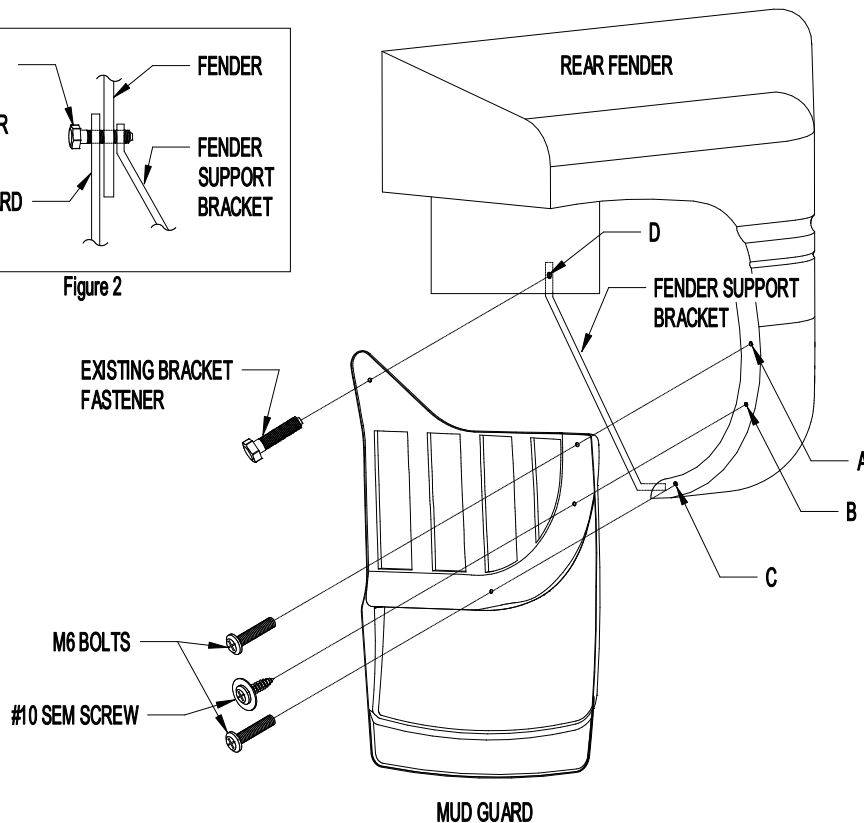

Figure 1
2. Remove existing fasteners from locations A, C, and D (Figures 1 and 2).
5. Using mud guard as a template, mark, center punch, and drill 1/8" hole at location B and attach with a #10 SEM screw (Figure 1).